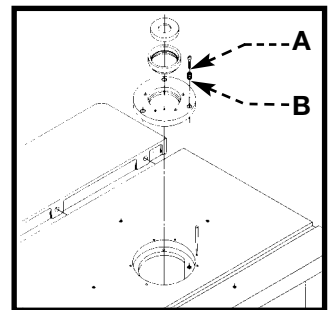

Fig. 12
Three table inserts are provided for various size cutters (Fig. 12). The large insert is adjustable. To set it flush with the table:
1. Remove the three slotted head screws (A) Fig. 12.
2. Use a screwdriver to turn the three adjusting screws (B) Fig. 12 until the insert is flush with the table.
3. Replace the slotted head screws (A).